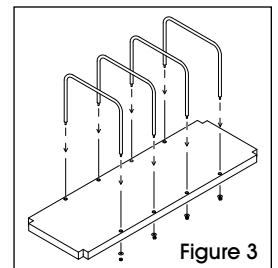

Figure 3
4. Insert the carton dividers into the holes along the edge of the platforms. Use 14" dividers in upper, 20" dividers in lower. Attach washer and lock nut to the threaded ends of the carton dividers. (See Figure 3)